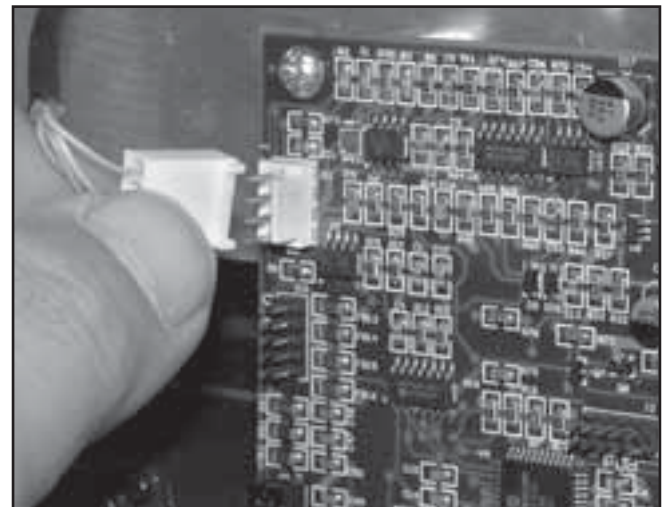

FIGURE 5.20
6. Remove Load Cell Connector from J11 on Motor Control Board. See Figure 5.20.